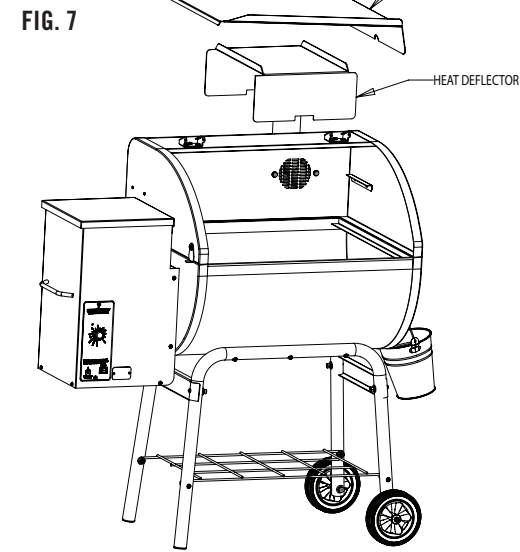
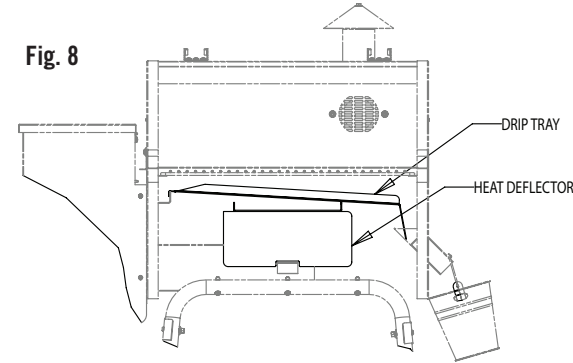

FIG. 7
Fig. 8
1. Install the Heat Deflector and Drip Tray as shown in Fig 7 and Fig 8.